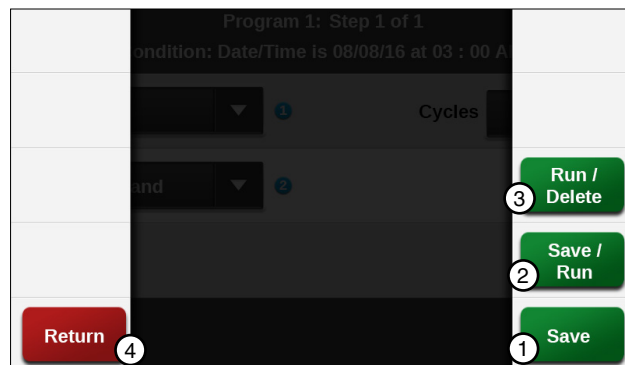

Figure 140-4 1. Save 3. Run/Delete
5. Finish the program by selecting one of the following. Refer to Figure 140-4.